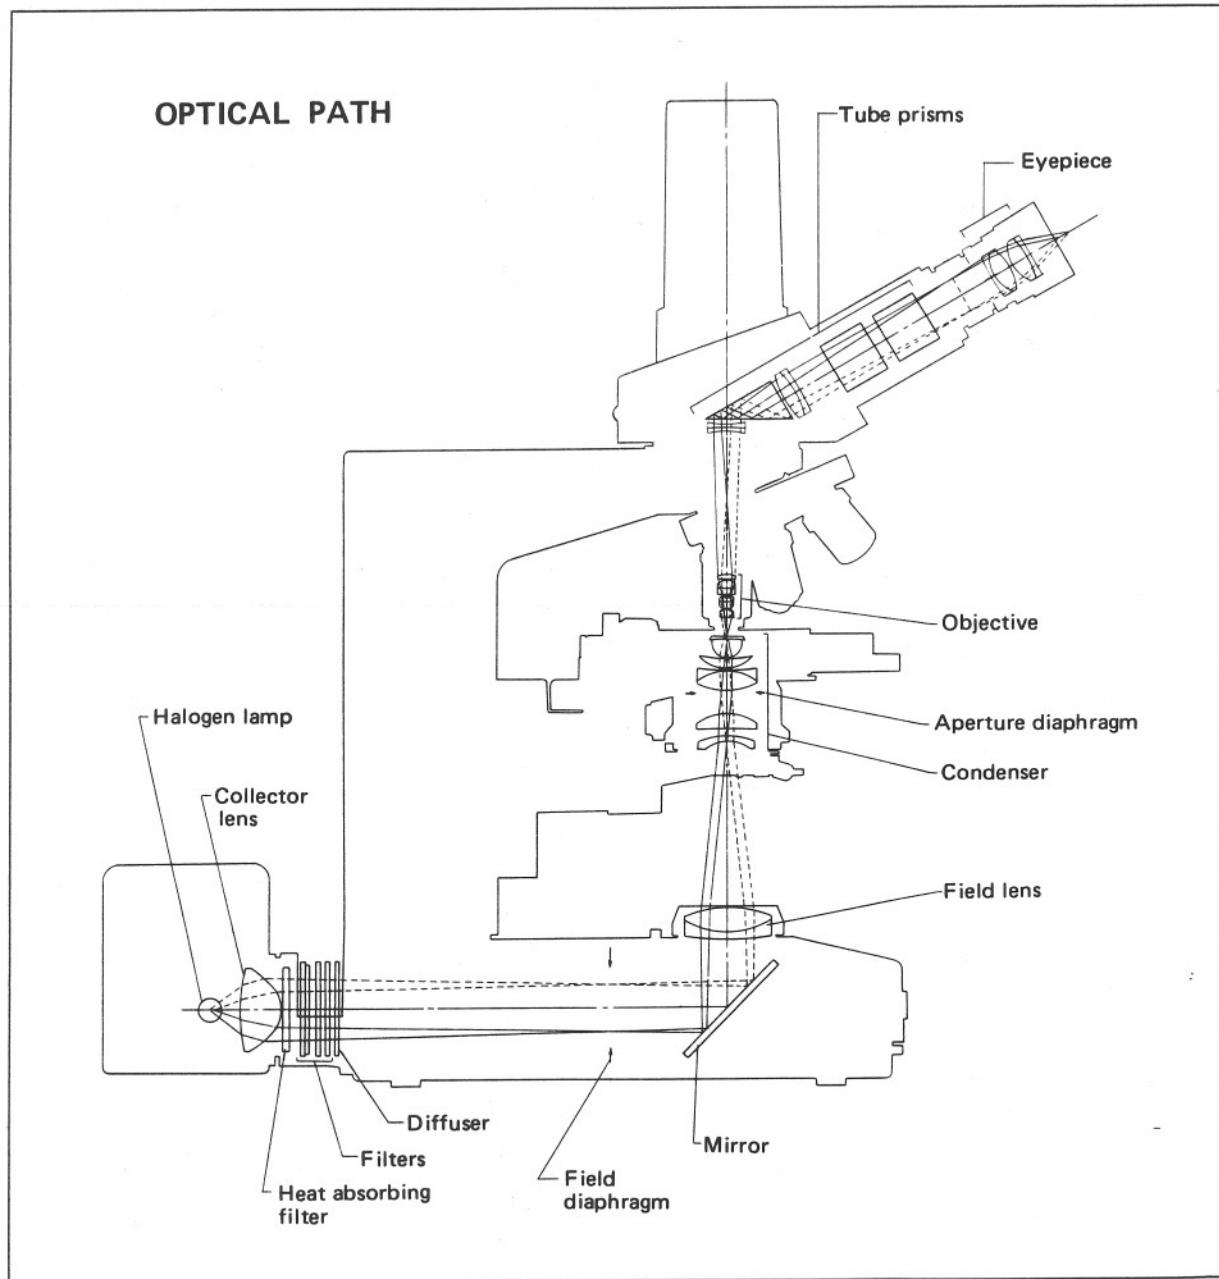

Fig. 23
4. Illumination System (Refer to Fig. 23)